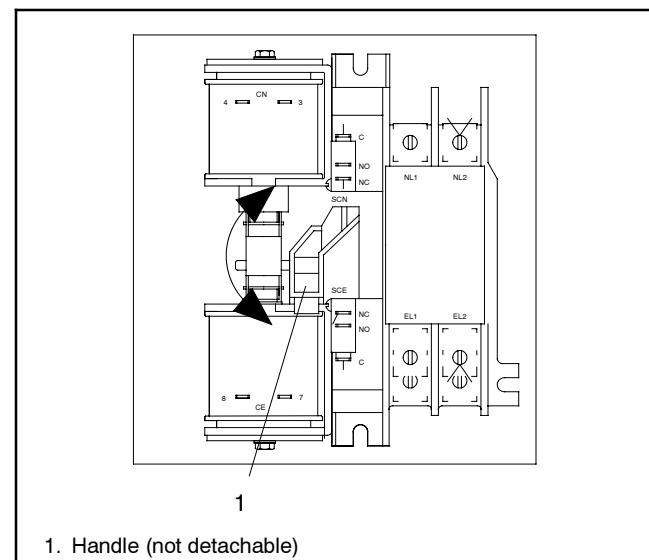
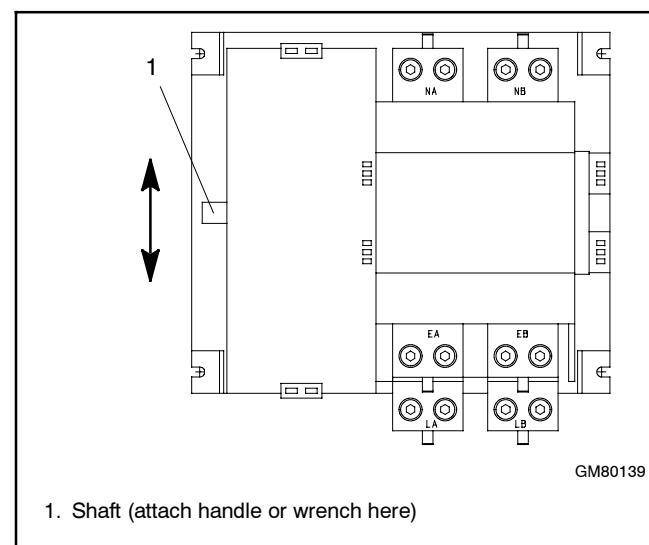

Figure 2-4 Manual Operation, 100 and 200 Amp Single-Phase Switches
Figure 2-5 Manual Operation, 400 Amp Single-Phase and 208-240 Volt Switches
1. 100-200 amp switches: These switches have an attached handle as shown in Figure 2-4.
400 amp switches: Slide the detachable handle or a wrench over the shaft. See Figure 2-5.
2. Move the handle up to place the transfer switch in the Normal Source position or down to place the contactor in the Emergency Source position. See Figure 2-4 or Figure 2-5.